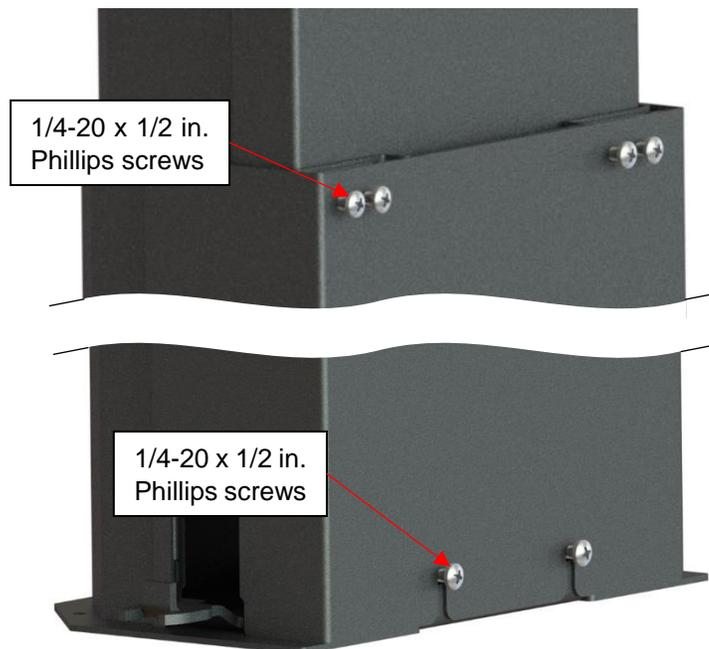

Figure 59
- 1) Loosen the four top 1/4-20 x 1/2 in. Phillips screws so you have an approx. 1/4 in. (6.35 mm) gap between the heads of the screws and the outer sleeve. (Figure 59)
- 2) Untighten the two bottom 1/4-20 x 1/2 in. Phillips screws to have an approx. 1/4 in. (6.35 mm) gap between the heads of the screws and the sleeve. (Figure 59)
- 3) Slide both the top and bottom sleeve brackets on the appropriate screws. Ensure the sleeve brackets are well centered with the post assembly. (Figure 59)